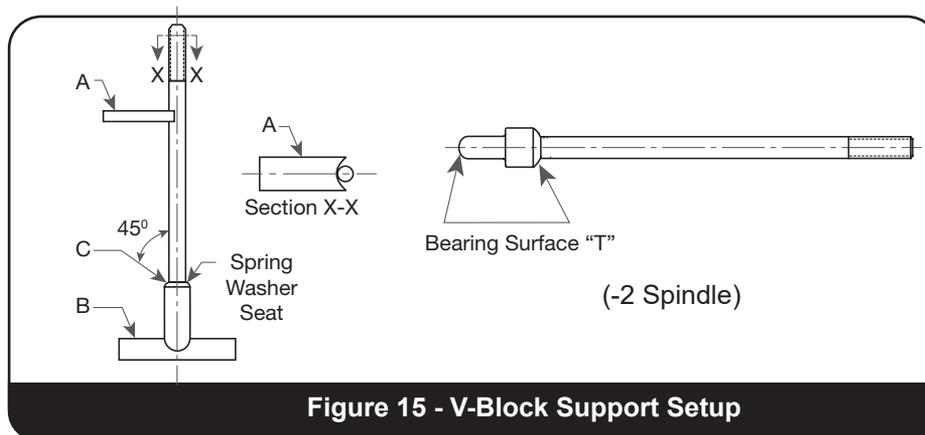

Figure 15 - V-Block Support Setup
a. The ball-pointed spindles should be placed in a piece of material, "B" that has been recessed to permit free rotation of the spindle (see Figure 15 on page 31).
3. The stem is bent (see Figure 15 on page 31).